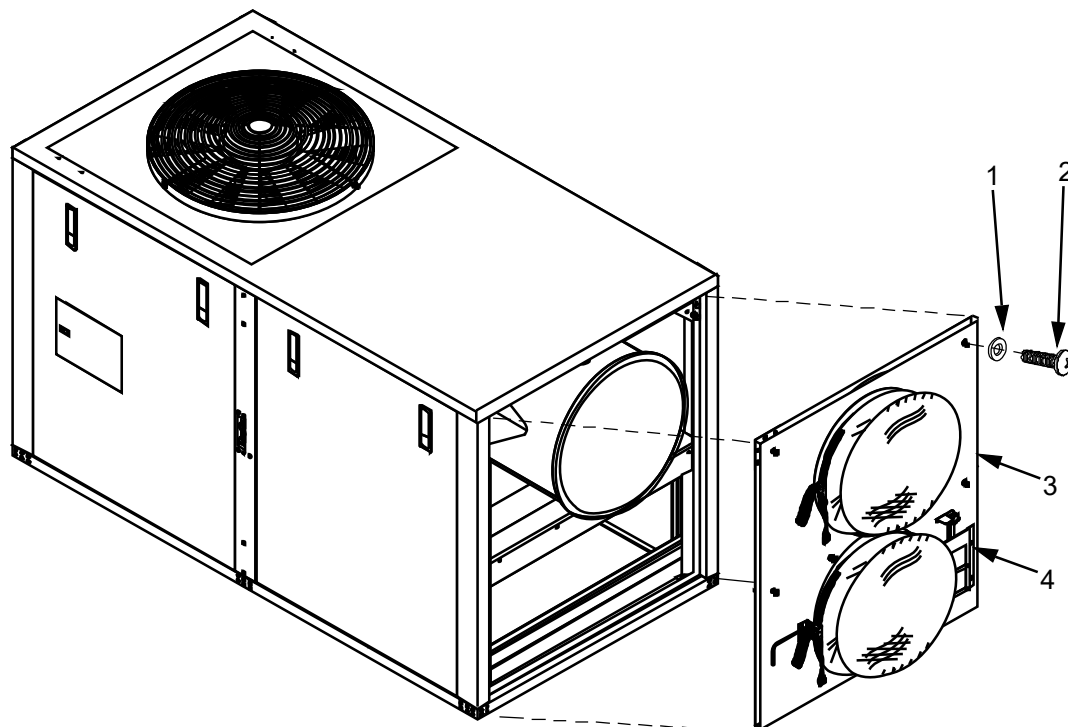
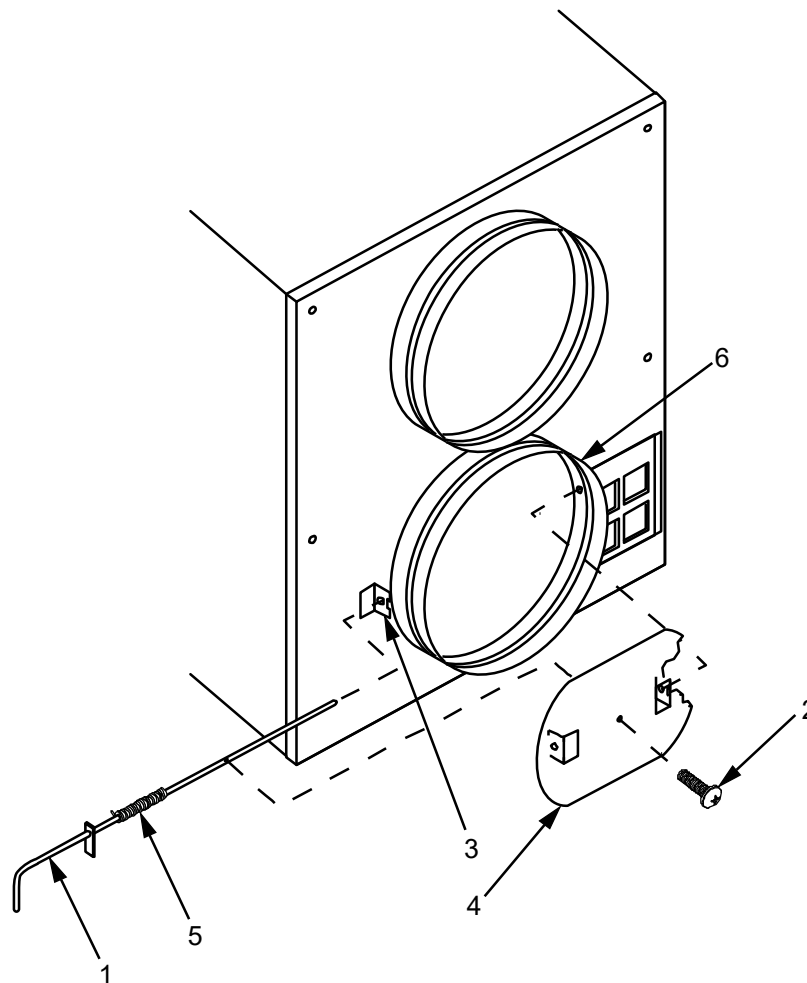

Figure 4. ECU Evaporator Panel Assembly Replace.
Figure 5. ECU Damper Assembly Replace.
2. Disconnect the ECU power cable (Figure 4, Item 1) from Power Source.
4. Remove fresh air intake door (Figure 4, Item 5) from evaporator panel assembly (Figure 4, Item 4) (see procedure in this WP).
5. Remove and retain six screws (Figure 4, Item 3) and washers (Figure 4, Item 2) that secure evaporator panel assembly (Figure 4, Item 4) to ECU.
6. Lift evaporator panel assembly (Figure 4, Item 4) up about one inch until the guide pins clear the center holes.
7. Place evaporator panel assembly (Figure 4, Item 4) out of immediate work area.
1. Lift evaporator panel assembly (Figure 4, Item 4) into position above the ECU enclosure opening.
2. Lower evaporator panel assembly (Figure 4, Item 4) so that the two guide pins drop into guide pin holes.
3. Push evaporator panel assembly (Figure 4, Item 4) forward until it is firmly against the ECU enclosure.
4. Secure evaporator panel assembly (Figure 4, Item 4) to ECU using six screws (Figure 4, Item 3) and washers (Figure 4, Item 2).
5. Install fresh air intake door (Figure 4, Item 5) and secure to evaporator panel assembly (Figure 4, Item 4) (see procedure in this WP).
7. Verify that ECU power cable (Figure 4, Item 1) is connected to Power Source and start ECU in accordance with ECU Start Procedure (WP 0005).
3. Set damper rod (Figure 5, Item 1) to the open position.
4. Remove and retain screw (Figure 5, Item 2) that secures damper plate (Figure 5, Item 4) to damper rod (Figure 4, Item 1).
When performing the following step, be aware of the spring (Figure 5, Item 5) located on the damper rod (Figure 5, Item 1).
5. Slide damper rod (Figure 5, Item 1) out through damper plate (Figure 5, Item 4), spring (Figure 5, Item 5), lower duct work (Figure 5, Item 6) and duct wall clip (Figure 5, Item 3).
1. Insert damper rod (Figure 5, Item 1) into duct wall clip (Figure 5, Item 3) and slide through lower duct work (Figure 5, Item 6) approximately three inches.
2. Place spring (Figure 5, Item 5) and damper plate (Figure 5, Item 4) onto damper rod (Figure 5, Item 1). Continue inserting assembly through lower duct work (Figure 5, Item 6).
3. Ensure that damper rod (Figure 5, Item 1) and damper plate (Figure 5, Item 4) are positioned properly. Secure damper plate (Figure 5, Item 4) to damper rod (Figure 5, Item 1) with screw (Figure 5, Item 2).